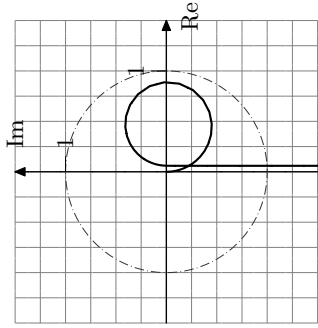

Figure 4.3a
- 4.3 a) In Figure 4.3a the Nyquist curve for a system is shown. Draw the Bode plot for the same system. The scale on the  $\omega$ -axis is not important, as long as the amplitude and phase curve are in agreement.